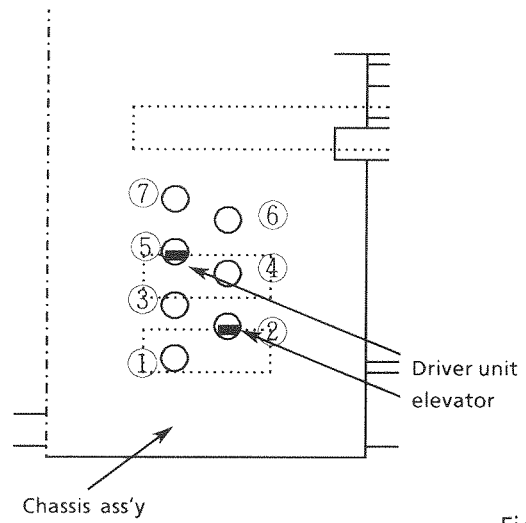
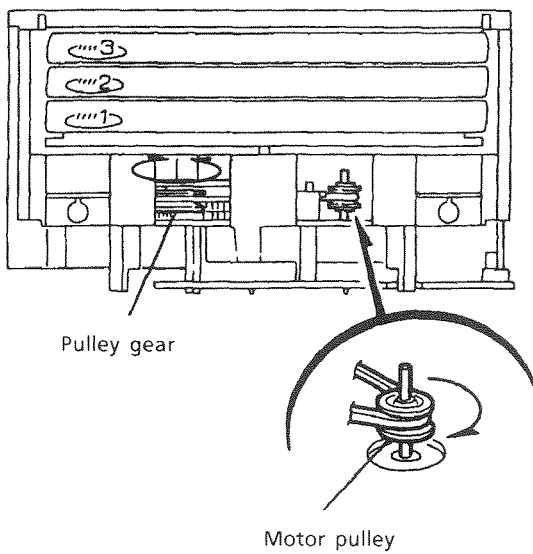

Fig. 33
Fig. 34
- [NOTE] Set the elevator in correct position (Fig. 33) by rotating the pulley gear with finger if it is not positioned correctly (Fig. 34.).
12. Rotate the motor pulley clockwise with finger until the lifter unit's stopper is lowered from ⑧ hole located on the CD tray ass'y. (See Fig. 34.)